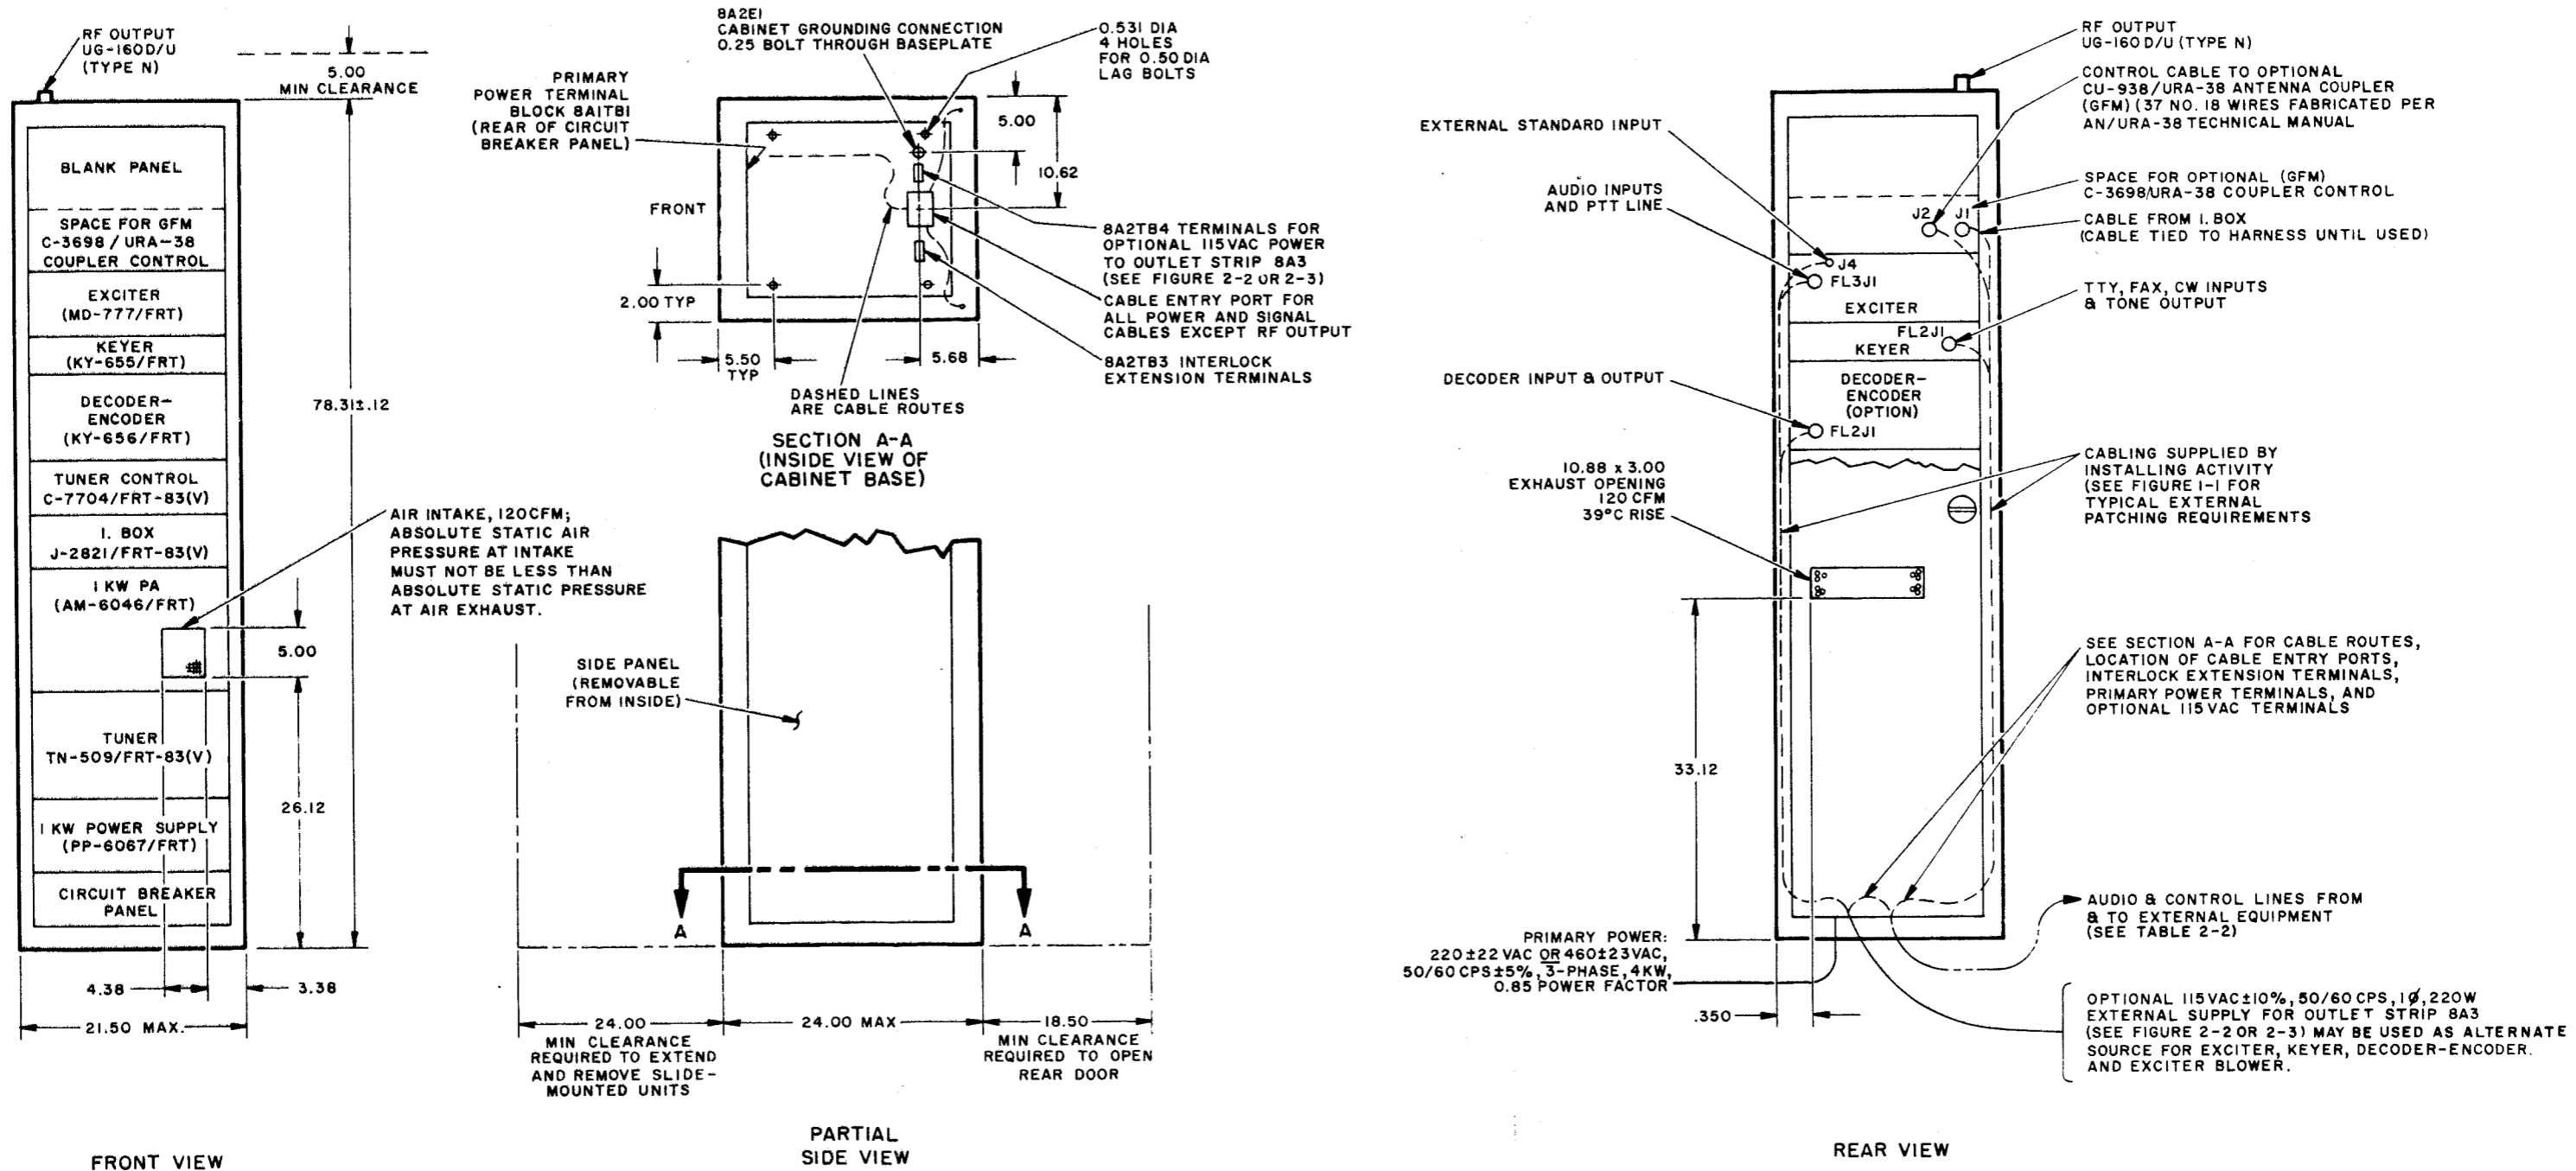

Figure 2-1. Radio Transmitting Set AN/FRT-83(V) Local Equipment Cabinet, Outline Drawing
2-3 The following instructions apply to the uncrated AN/FRT-83(V) local equipment cabinet with all optional units (Keyer and Decoder-Encoder). Consideration is also given to the possible use of a GFM AN/URA-38 Antenna Coupler Group, for which provisions have been made in the AN/FRT-83(V). Procedures for installation of the GFM AN/URA-38 Antenna Coupler Group are given in the Technical Manual for that equipment. Mounting space is provided in the local equipment cabinet for the C-3698/URA-38 Coupler Control unit as shown in figure 2-1, and cable connection required from that unit to the AN/FRT-83(V) local equipment are described in paragraph 2-24. Disregard instructions given for optional units not included in your particular installation. Also disregard installation instructions in the Exciter and Keyer technical manuals except as referenced herein. Table 2-1 is supplied as a guide to items required for installation.
2-8 EQUIPMENT LOCATION. Figure 2-1 shows the dimensions of the local equipment cabinet which are necessary for installation. The cabinet is designed for floor mounting, with input cables routed through floor ducts. The exact location should include minimum clearances as shown to allow access to the cabinet and the units. Cooling air flow requirements shown in figure 2-1 should be provided. Normally, it is necessary simply to prevent obstructions to the air intake and exhaust to allow circulation of ambient air.
2-10 CABINET MOUNTING. After the mounting location for the local equipment cabinet has been selected, refer to figure 2-1 to determine mounting holes required. Prepare the mounting holes, and ensure that a floor duct opening is provided in alignment with the entry port in the cabinet base. Set the cabinet in place, and secure with four 0.5 inch OD lag bolts. Base plate is accessible through rear door.
Location and identification of connectors and cable routing are shown in figure 2-1. Paragraph 2-13 provides details for the interconnection of the local equipment to the external equipment in the system. Paragraph 2-17 provides information for connection of primary power wiring to the local equipment cabinet.
2-19 With either line voltage, connect the phase A, B, and C wires of the primary power cable to terminals 1, 2, and 3 of terminal block 8A1TB1 on the rear of the circuit breaker panel (figure 2-1). The wire size depends on the particular installation, and should be determined by factors such as current requirements, and length of run. For typical installations, #14 AWG wire is generally sufficient. The circuit breaker panel rack screws can be removed to tilt the panel forward for access. The protective cover must be removed to expose the terminal block and circuit breaker 8A1CB1.
2-23 RF OUTPUT CONNECTION. The RF output of the AN/FRT-83(V) is supplied through a type "N" jack at the top of the cabinet (figure 2-1). The output connection to the antenna system (to the Antenna Coupler if used) should be made with 50 ohm coaxial cable and a UG-21E/U or similar type "N" plug selected to fit the particular cable.